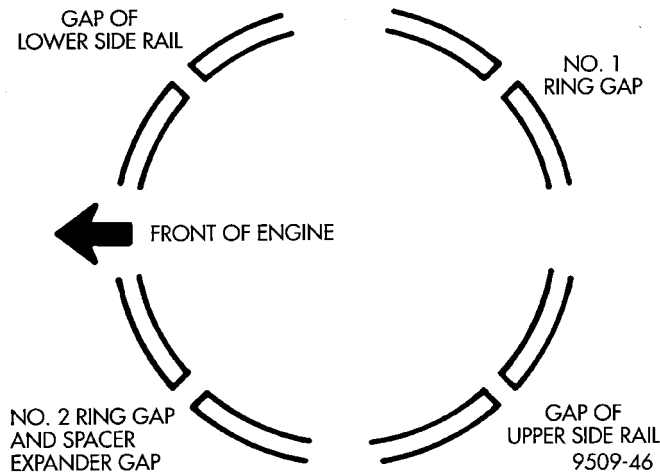

Fig. 83 Piston Ring End Gap Position
(4) Position piston ring end gaps as shown in (Fig. 83).
(5) Position oil ring expander gap at least 45° from the side rail gaps but **not** on the piston pin center or
(1) Before installing pistons and connecting rod assemblies into the bore, be sure that compression ring gaps are staggered so that neither is in line with oil ring rail gap.
(2) Before installing the ring compressor, make sure the oil ring expander ends are butted and the rail gaps located as shown in (Fig. 83).